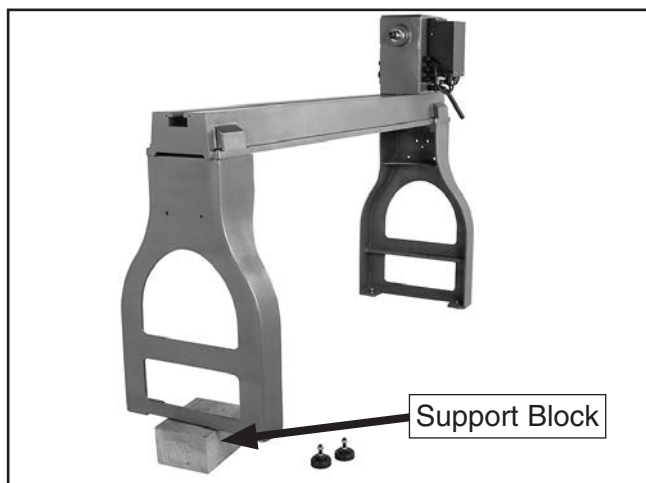

Figure 14. Legs supported for feet installation.
5. Use assistants to lift one end of lathe onto support blocks and stabilize lathe in preparation for installing machine feet (see **Figure 14**).